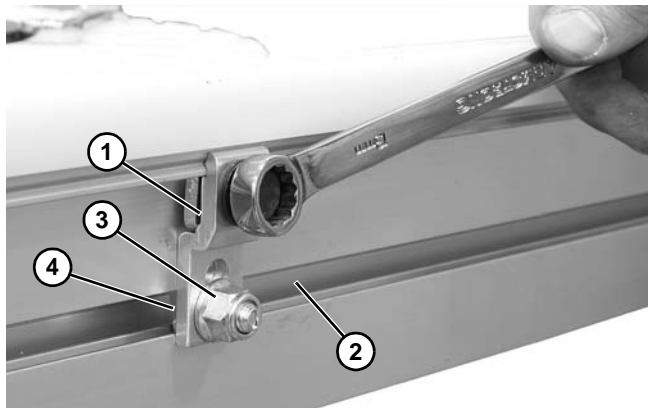

Figure 84
- Install clip assembly (**Figure 84, item 1**) into side rail channel (**Figure 84, item 2**). The end clips should be no greater than 12" from the end of the conveyor.
Make sure that the studs (Figure 84, item 4) rotate inside the channel and engage with the conveyor.
- Fasten clip (**Figure 84, item 1**) to conveyor with nut (**Figure 84, item 3**) on stud.